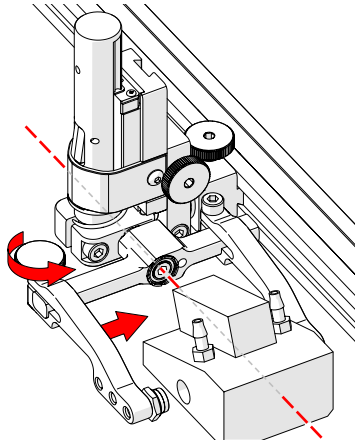

Fig. 104 - Adjust outer arm
5. Loosen the probe holder arm adjustment knob (Fig. 104) and slide the probe holder arm along the yoke pinching the wedge in place.